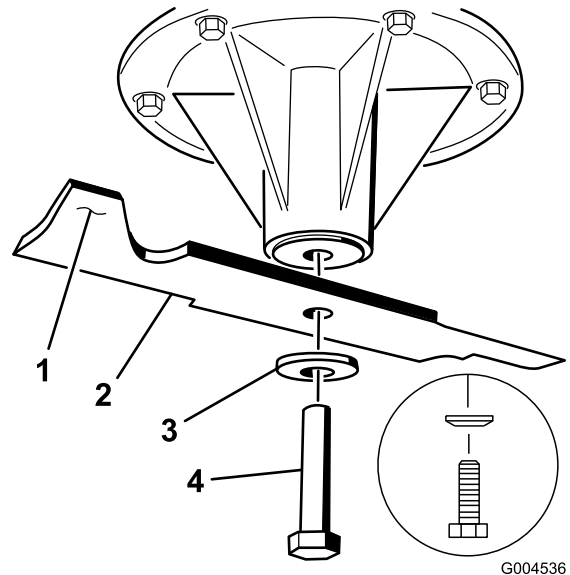

Figure 99
2. Remove the blade bolt, curved washer, and blade from the spindle shaft (Figure 99).
3. If the blade is not balanced, file some metal off the end of the sail area only (Figure 99).